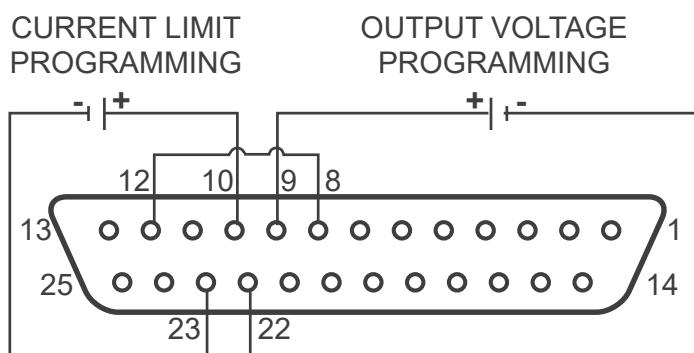

Fig.4-1: Remote voltage programming connection
6. Connect the programming source to the mating plug of J1 as shown in Fig.4-1. Observe correct polarity for the voltage source.